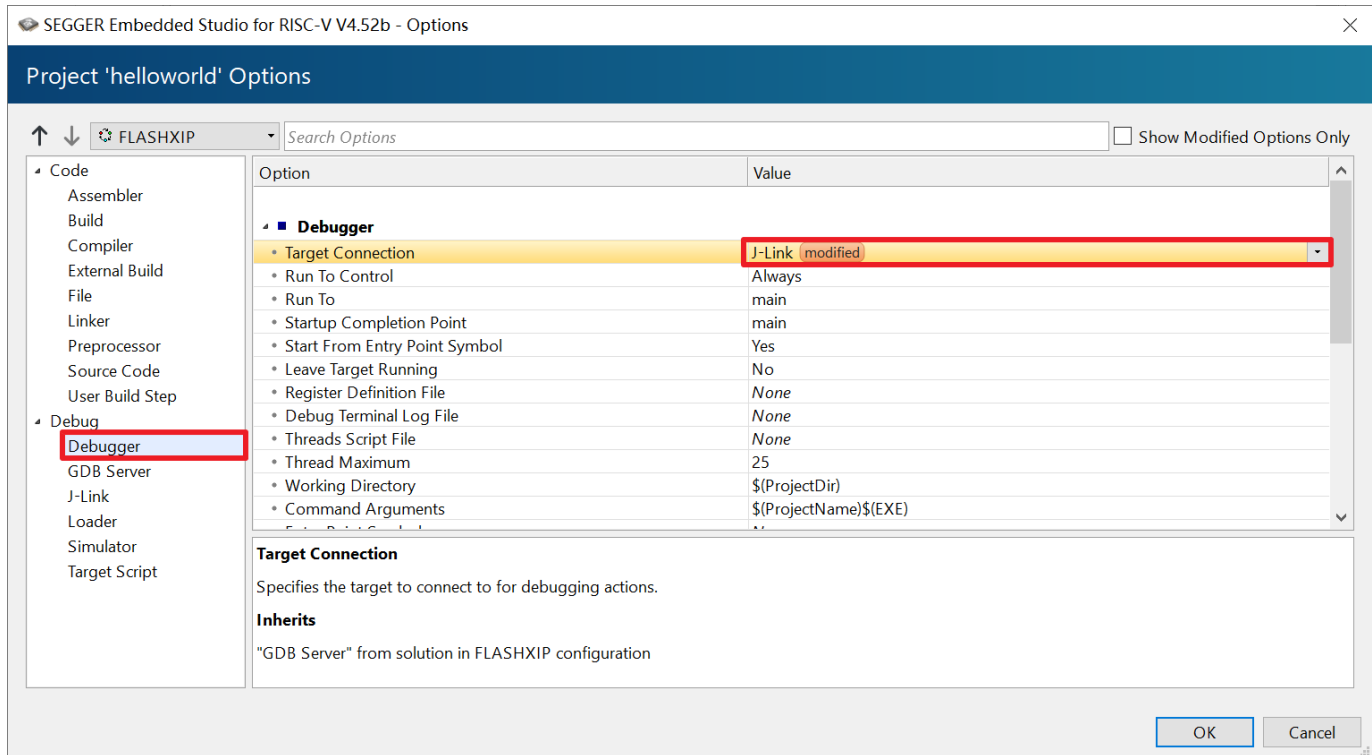

Figure 4-7 Modify Project Settings to Use J-Link
- Switch the “Target Connection” option to “J-Link” under the debugger column, as shown in Figure 4-7.